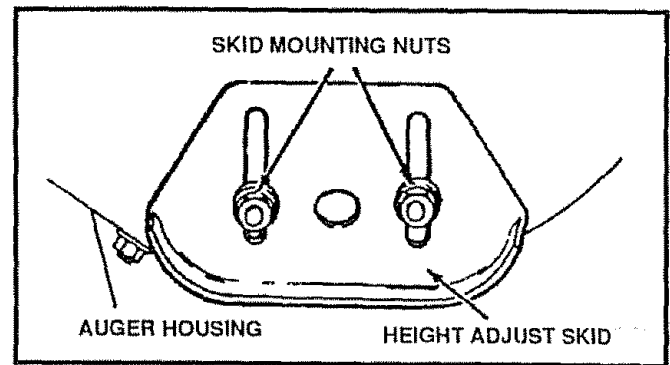

FIG. 23
This snow thrower is equipped with two height adjustment skids, located on the outside of the auger housing (See Fig. 23). These skids elevate the front of the snow thrower.
- Loosen the skid mounting nuts (See Fig. 23) and push the skids down until they touch the ground. Retighten the mounting nuts.